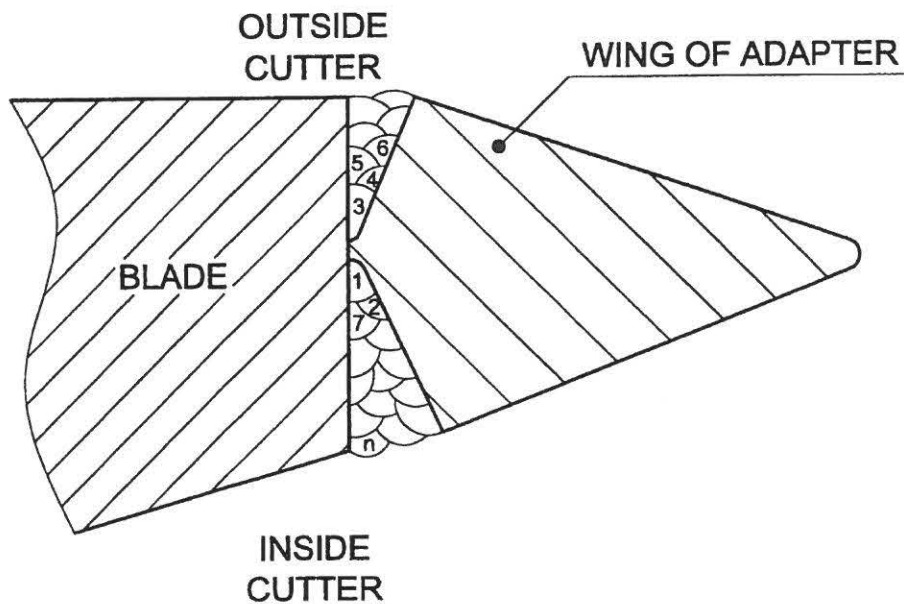

Figure 9.6
3. Weld the longitudinal seams between the wing and the cutter blade as shown in figure 9.6.